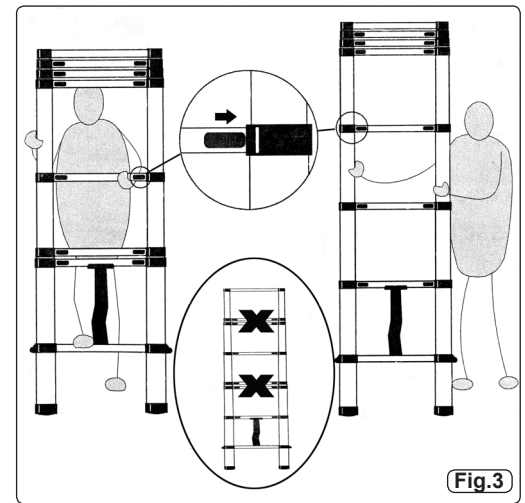

Fig.3
4.3 Partially Extending the Ladder (Fig.3)
- 4.3.3 Ensure that only the uppermost sections are closed when partially extending the ladder. **DO NOT** leave sections in the middle of the ladder closed (inset Fig.3).